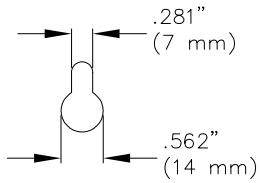

Figure 4.1
The mounting flanges each have two (2) keyhole slots. These are designed to conveniently engage a ¼" (6mm) diameter bolt. The dimensions are pattern of mounting flange keyhole slots is shown in Figures 4.1 & 4.2